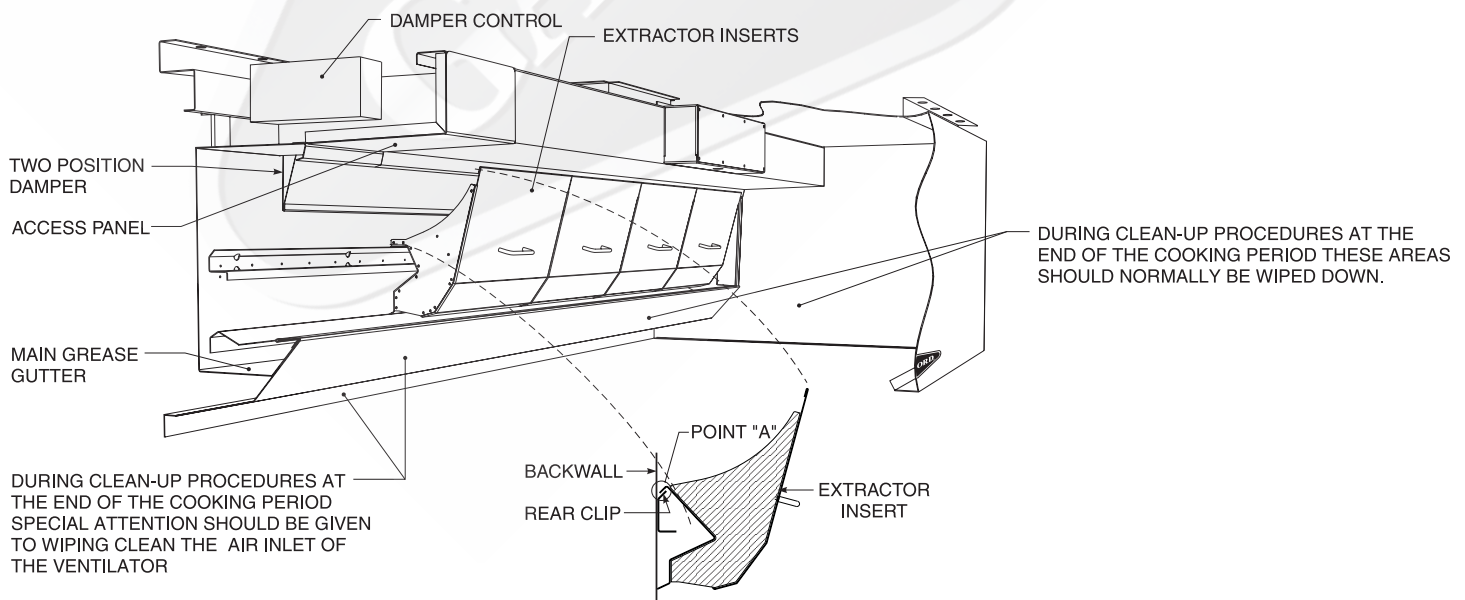

FIG. 4
4. To replace the extractor inserts, care must be taken to insure that point "A" rests in the rear clip as illustrated in Fig. 4.